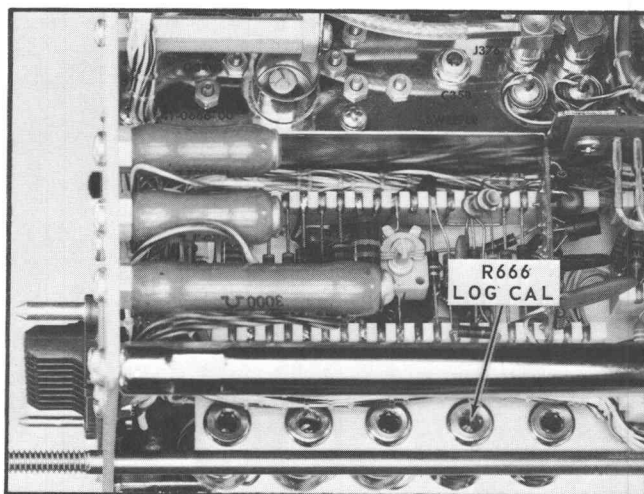

Fig. 6-20. Location of Log Cal adjustment R666 (Step 13h).
- h. Set the generator RF Attenuator control to -60 dBm and set Log Cal adjust R666 (see Fig 6-20 for a 6 centimeter signal.)